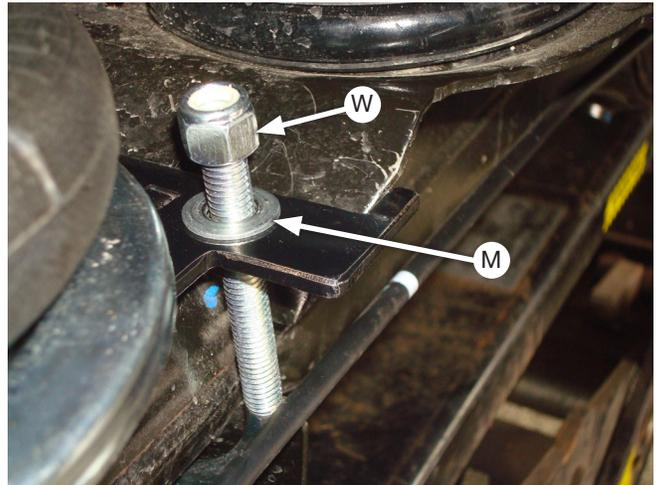

Fig. 25
2. Ensure the lower bracket is nested on the axle correctly, cap the inboard U-bolts with the 3/8" flat washers (M) and nylon lock nuts (W) (Fig. 25). Leave loose at this time.